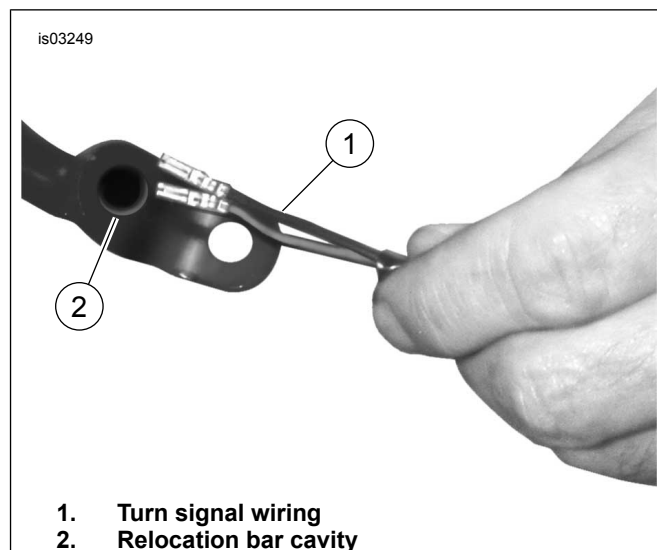

Figure 7. Route Wiring into Relocation Bracket
- See Figure 7. Route lamp wiring through turn signal relocation bracket.